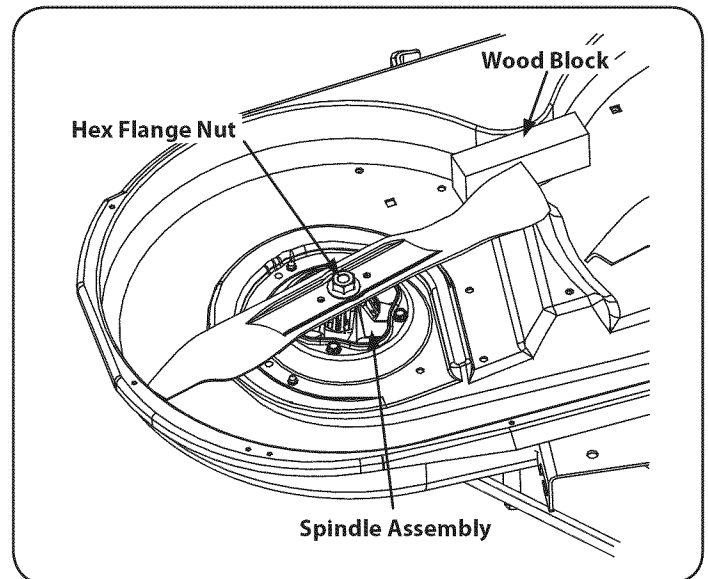

Figure 41
2. Use a 15/16" wrench to hold the hex nut on top of the spindle assembly when loosening the hex nut securing the blade. A block of wood may be placed between the deck housing and the cutting edge of the blade to help in breaking loose the hex nut securing the blade. See Figure 41.